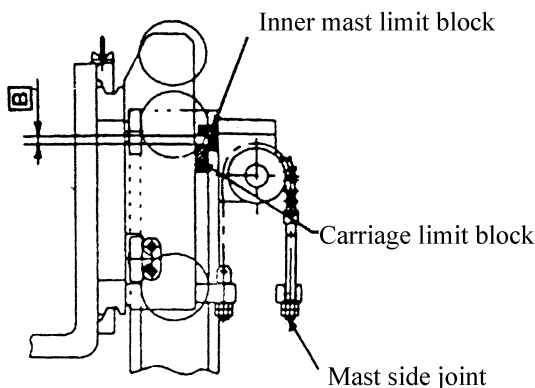

Fig.8.5
- (3) Lift fork to Max. height, and ensure gap $\square$ between limit blocks of fork and of inner mast shall be 5-10mm. See Fig8.5.
- (4) Put down the fork and tilt to specified position, adjust the nut at chain upside and tensility of two chains should be same. See Fug8.6.